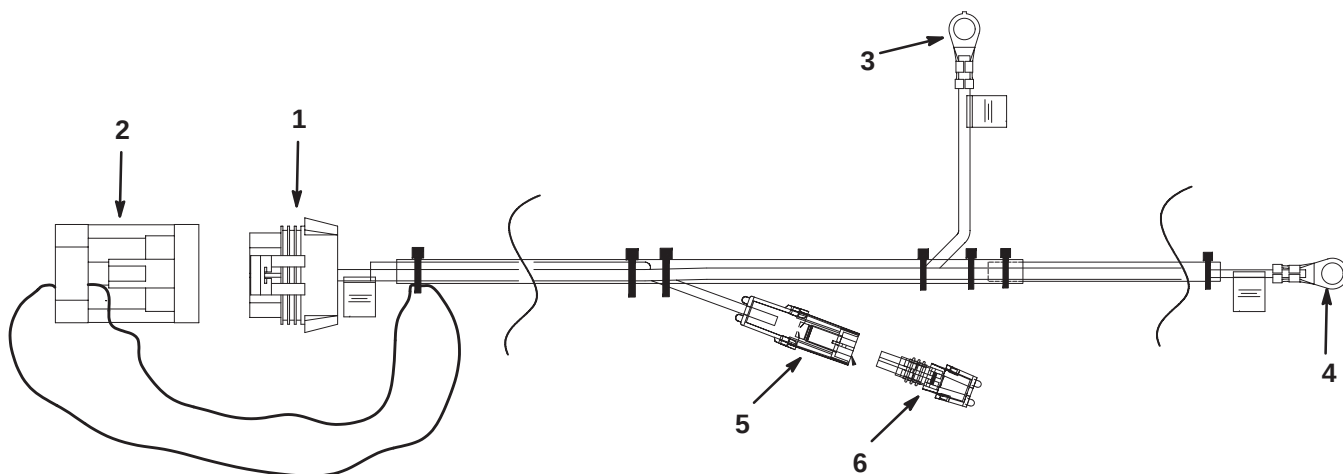

Figure 7
2. Connect the power wire harness ring terminals to the tow vehicle battery (Fig. 7).